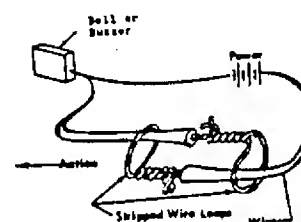

Figure 386 Multi-Action Device Booby Trap
6. A "Multi-Action Device" can be made with an open loop as shown in Figure 386. The open wire loop is the only break in a complete circuit connecting the buzzer and the battery. A variety of actions could pull the bare wires together and close the circuit.